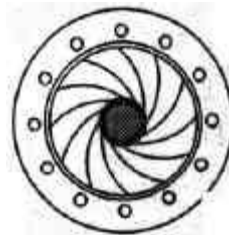

Figure 2. Iris
- d. Examine the beam on the iris (as shown in Figure 2) which is located in the nosecone of the output unit. Adjust the iris aperture as necessary to view the beam. It should be centered. **Never perform any scan if the beam alignment is in question.** Any data acquired without proper alignment could be incorrect.